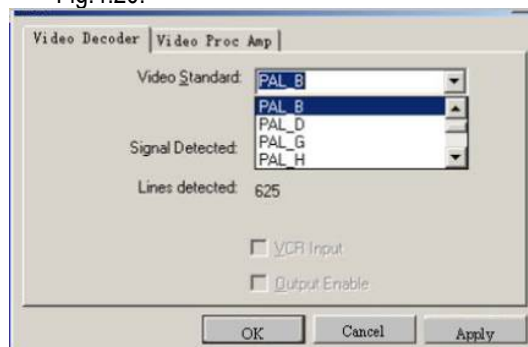

Fig.4.20
1. Click the "Video Capture Filter..." button, a dialog will occur, Click "Video Decoder" and set "Video Standard" as "PAL_B", as shown in Fig.4.20.